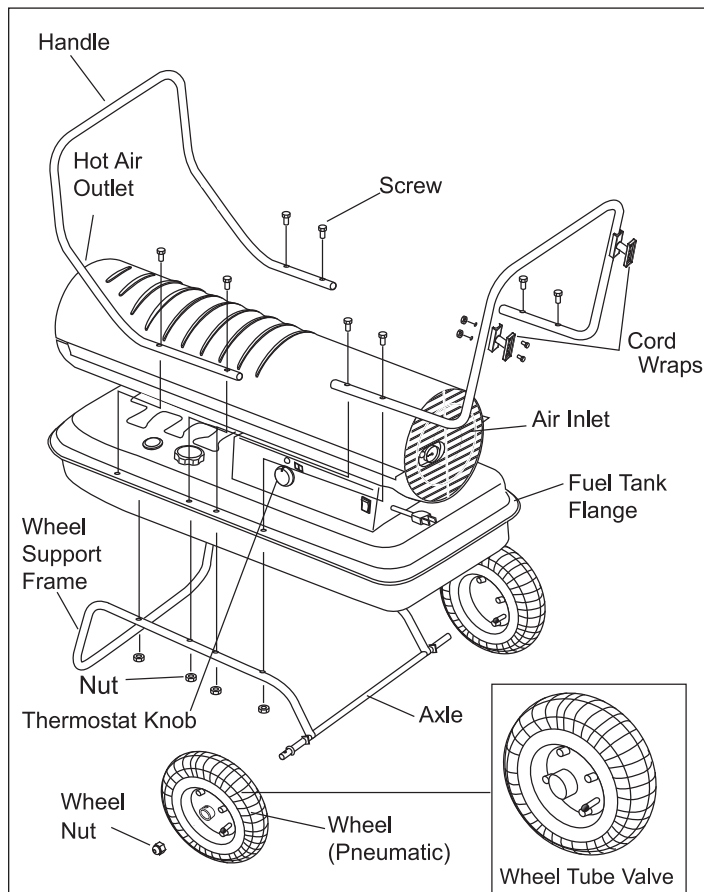

Figure 7 Attaching Handle for models PT-125T / 175T / 215T-KFA
1. Slide axle through holes in wheel support frame. Slide wheel bushings and flat washer (A) on to each end of axle.
2. Slide wheels on to each axle, being sure that the valve stem (if pneumatic) is to the outside (**see Figure 7.**).
5. Take the front handle and align the mounting holes with the corresponding holes in the tank flange/wheel frame. Slide a screw (A) through the holes and loosely attach a nut. Repeat for the other 3 holes, then fully tighten all 4 screws and nuts.
1. Align holes in cordwrap with corresponding holes in rear handle. Insert screws (B) through holes, attach nuts and tighten (**see Figure 7.**).